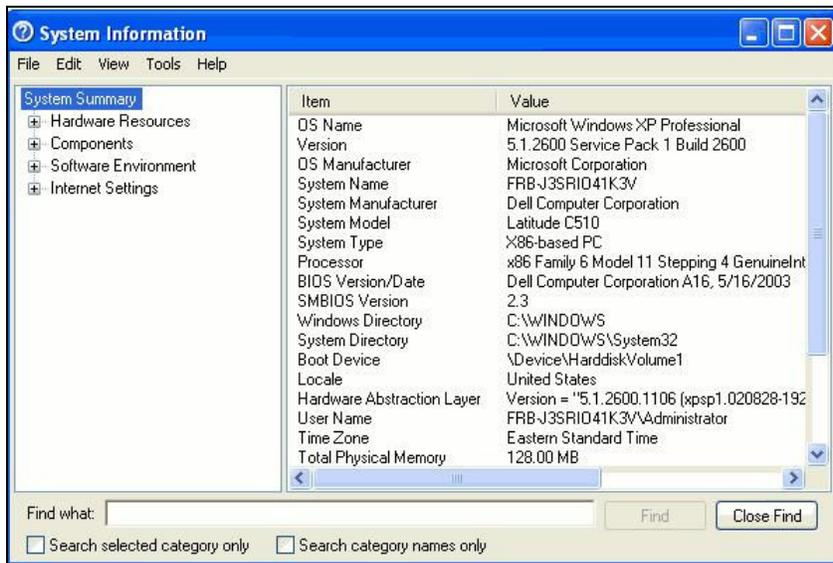

Figure 3.38
4. The Help window can also be used to obtain information pertaining to the computer. Click on the 'System Info' button to display information regarding the computer. (Figure 3.38)